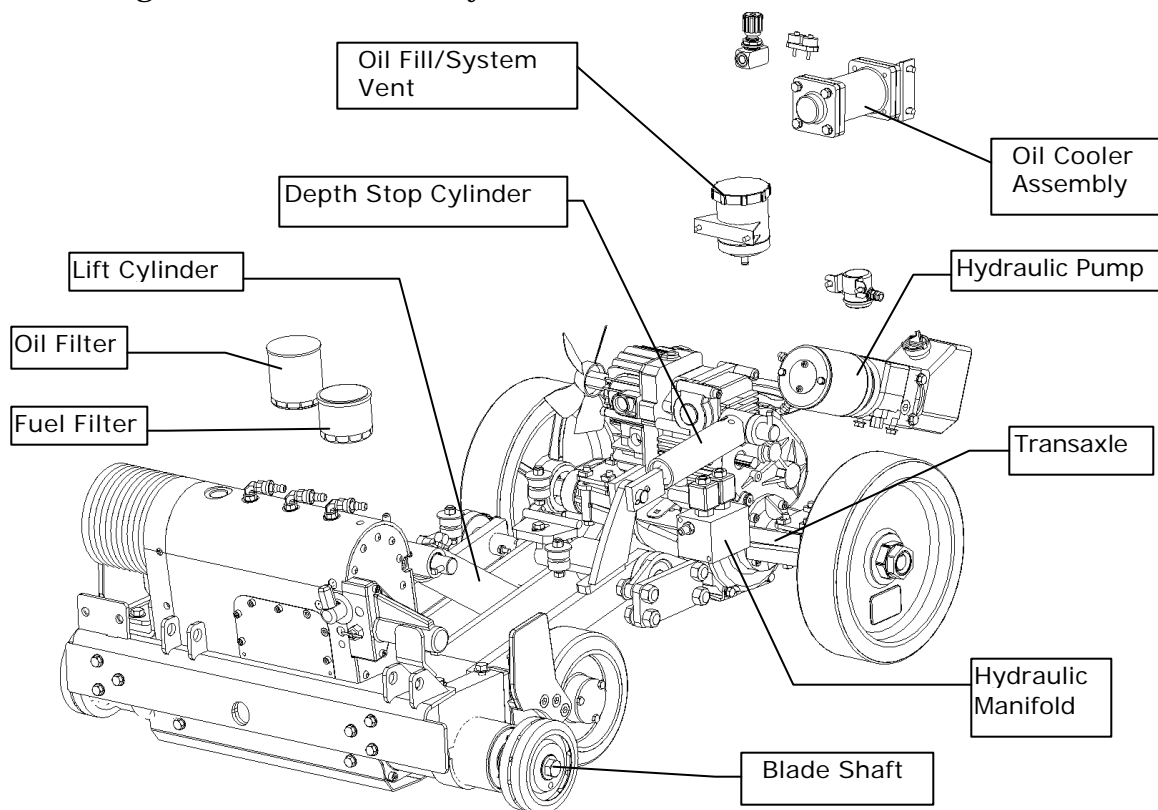

Fig. 44 — The Hydraulic System
3. Remove the used oil filter. **See Fig. 44.**